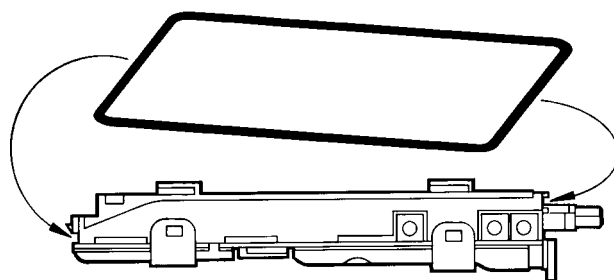

Figure 1-14. Replace Gasket
7. Replace chassis gasket (Figure 1-14).